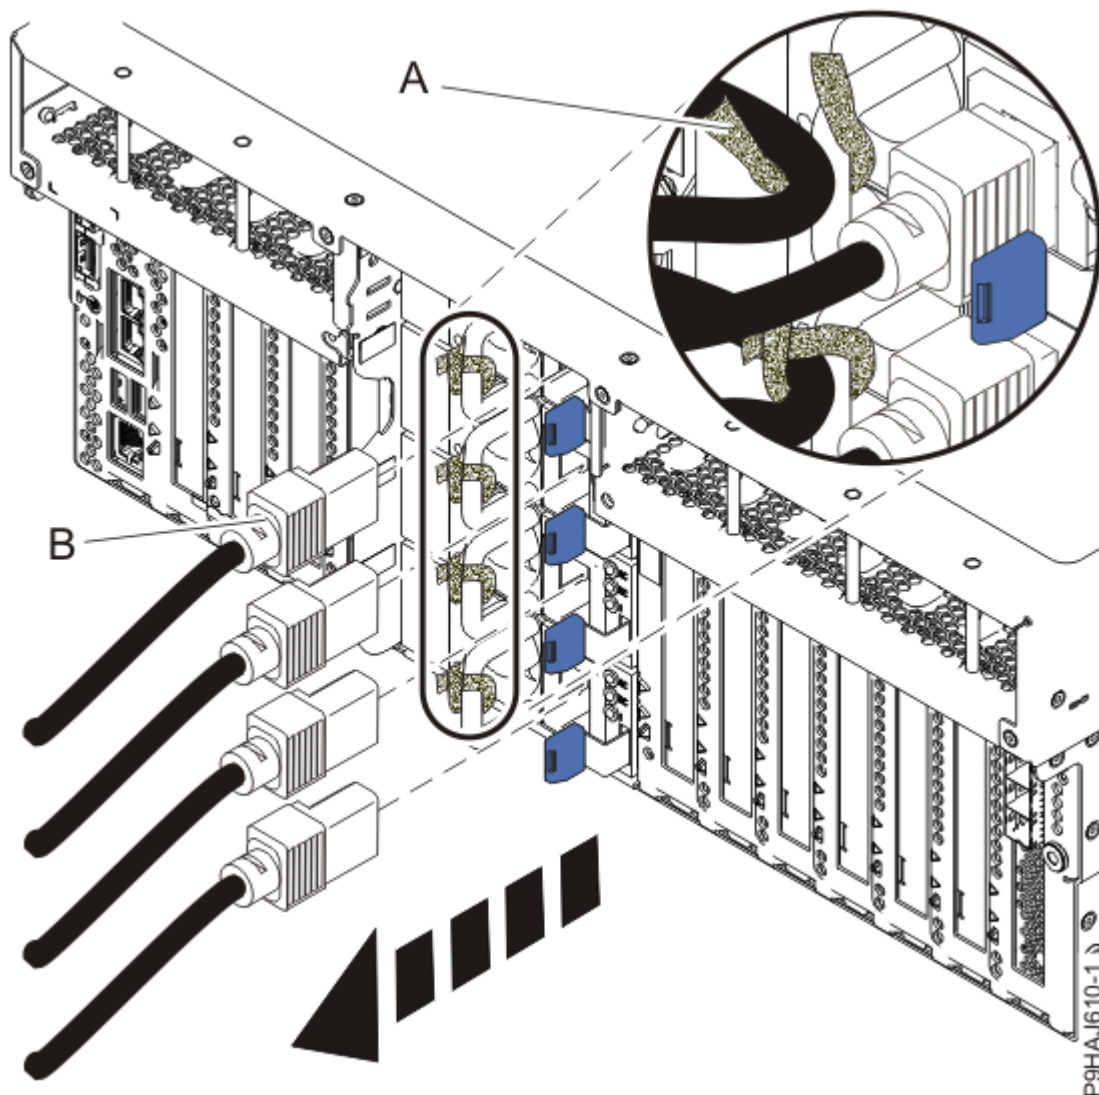

Figure 5. Removing the power cords from a rack-mounted server
- b) Label and disconnect the power cords from the system unit.See Figure 5 on page 6 or Figure 6 on page 7.